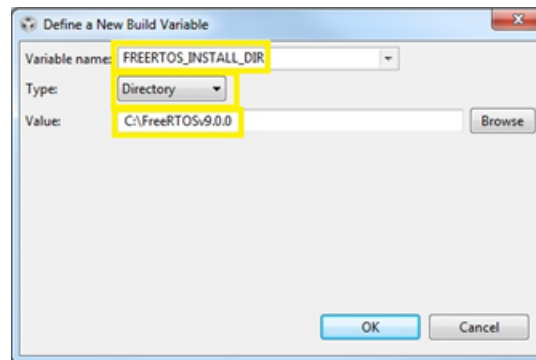

Figure 33. FreeRTOS Support in CCS (2 of 2)
8. Change the Value to the <FreeRTOS install path> and then press OK (see Figure 33).